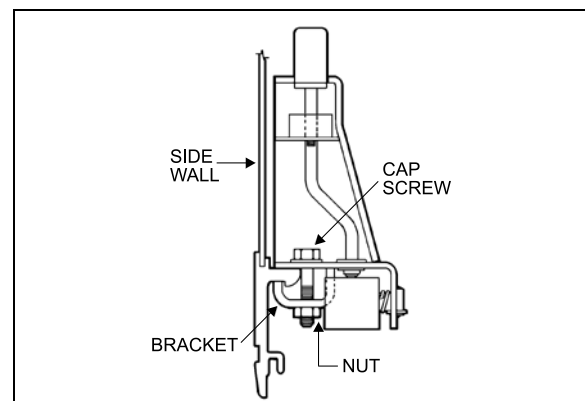
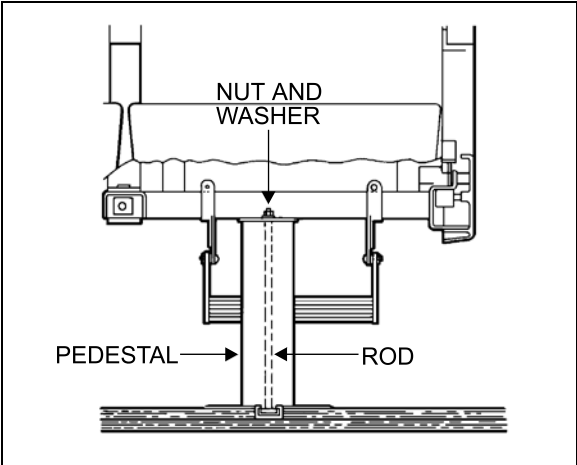

FIGURE 36: SIDE WALL MOUNTING
FIGURE 37: SEAT PEDESTAL ASSEMBLY 18107
4. Remove 2 cap screws, nuts, and washers holding seat frame to side wall and retain the 2 holding brackets. See Figure 36 and Figure 37.